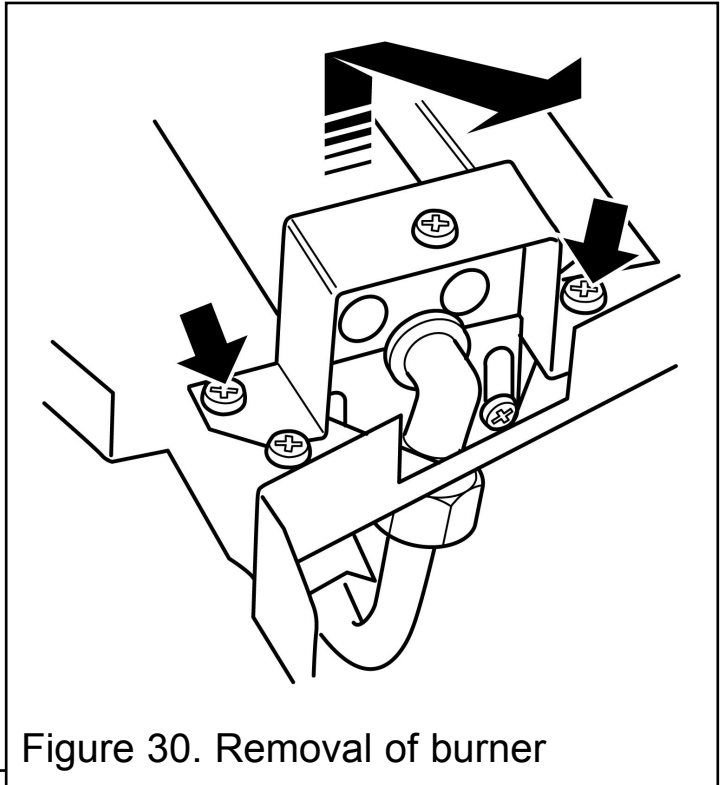

Figure 30. Removal of burner
See figure 30.
3. Remove the two screws from the burner clamping plate (See figure 30)